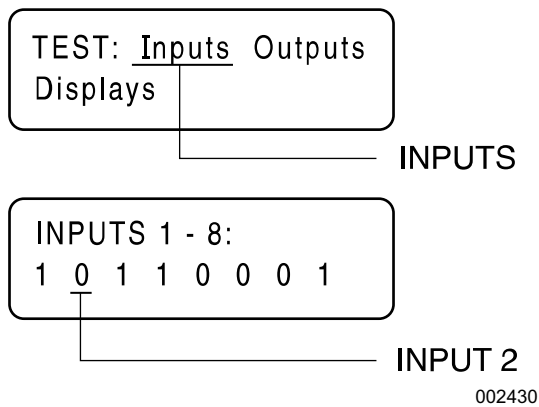

Figure 4-93. The Input Screens
- See **Figure 4-93**. Digital Input 2 is Wire 86 from the Low Oil Pressure switch to the board.